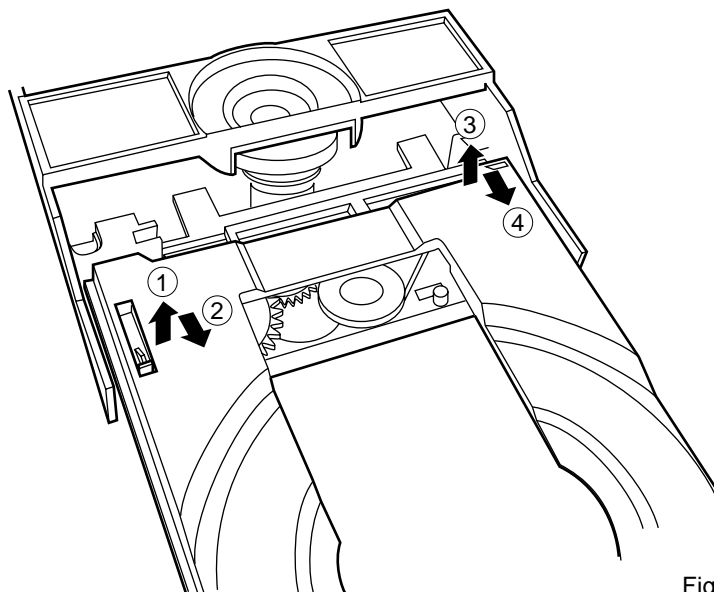

Fig. 2
2. While lifting up the lever (①), move the left side of the tray by pulling it forward (②). (Fig. 2)
3. While lifting up the tray (③), remove the tray by pulling it forward (④). (Fig. 2)